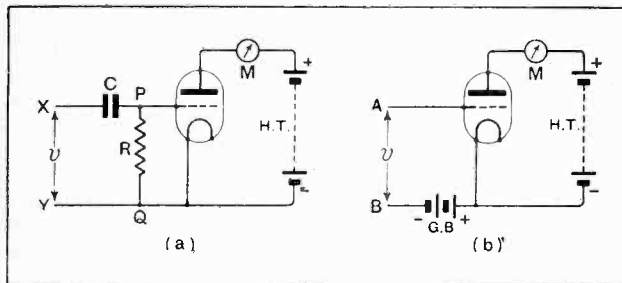

Fig. 1.—The circuit arrangements of (a) the grid leak rectifier and (b) the anode bend rectifier.
Fig 1 (a) shows the usual arrangement for this method. The input voltage ( $v$ ) to the valve is passed first through a condenser C before being applied to grid and filament, and the latter are shunted by a high resistance R. Briefly, the operation is as follows: When there is no applied voltage between the input terminals X and Y, the current in the plate circuit of the valve, as indicated in the meter M, will have a certain definite value, depending on the characteristics of the valve, the H.T. voltage, the filament temperature, the value of the resistance R, and the position of the end (Q) of this resistance (*i.e.*, connected to minus or plus L.T. or to intermediate positions). When an alternating voltage  $v$  is applied between X and Y the effect is to make the *mean* potential of the grid more negative, the amount of the change of mean grid potential depending for a given circuit on the value of  $v$ .
The circuit arrangement for this is shown in Fig. 1 (b). The input voltage  $v$  is applied to A and B, and the mean